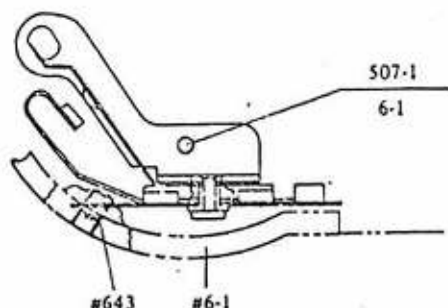

Figure 1 Modified Bottom Plate Unit.
The former bottom plate unit subassembly (Assy. C) and new one (Assy. C-1) are not interchangeable. Therefore, when a Nikonos III camera has been brought in for servicing of the FP contact, first determine whether the camera was produced before or after this modification. New cameras can be readily identified from the newly installed screw (P/N643) as shown in Figure 1. By turning P/N643, adjust the time lag or contact efficiency to the Nikon standard. (see Repair Manual 9F3B-R. 2028.B p. 30 item 19)